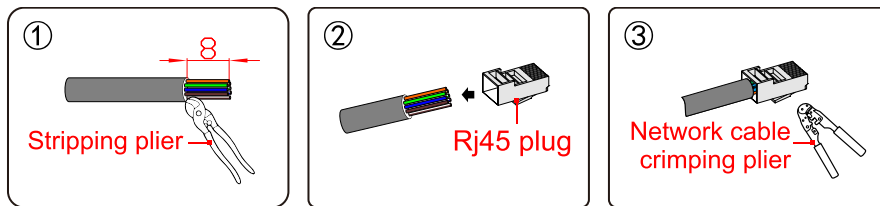

Figure4-31 Crimp the Network signal SPD LAN cables
Step 2 Crimp the Network signal SPD LAN cables, as shown in Figure4-31.